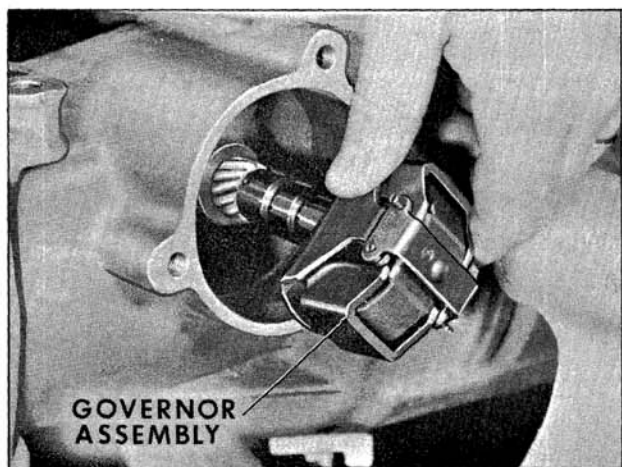

Fig. 6-371 Removing Governor
2. With a twisting motion, slide governor assembly out of its bore in case. (Fig. 6-371)